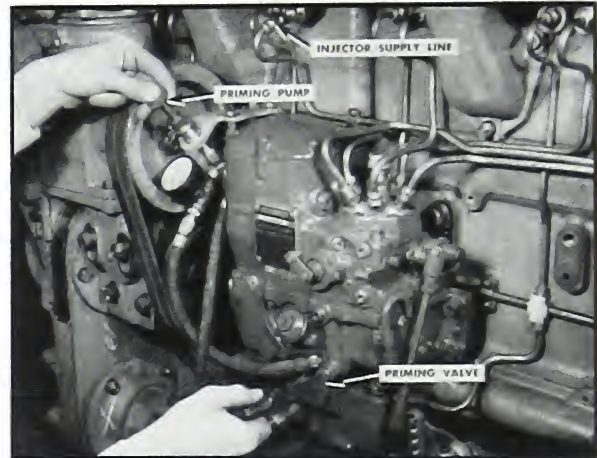

Fig. 12-38. Priming discharge disc and supply lines
9. With a hand crank or other suitable means, bar the engine in operating direction until a "PR" mark on the fan drive pulley is indexed with the timing mark on the gear case cover. Use the compression release for ease in turning. Work the priming pump until fuel comes out of the indexed line, then tighten this line to the injector and give two more strokes of the priming pump. Over priming is not necessary or desirable. Proceed in this manner until all six lines and injectors have been primed. Refer to Fig. 12-38.